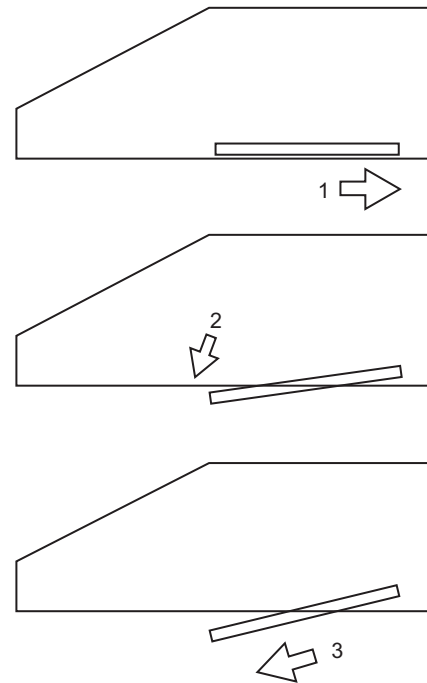

Fig.01
**Removing Baffle Filters, Fig.01**